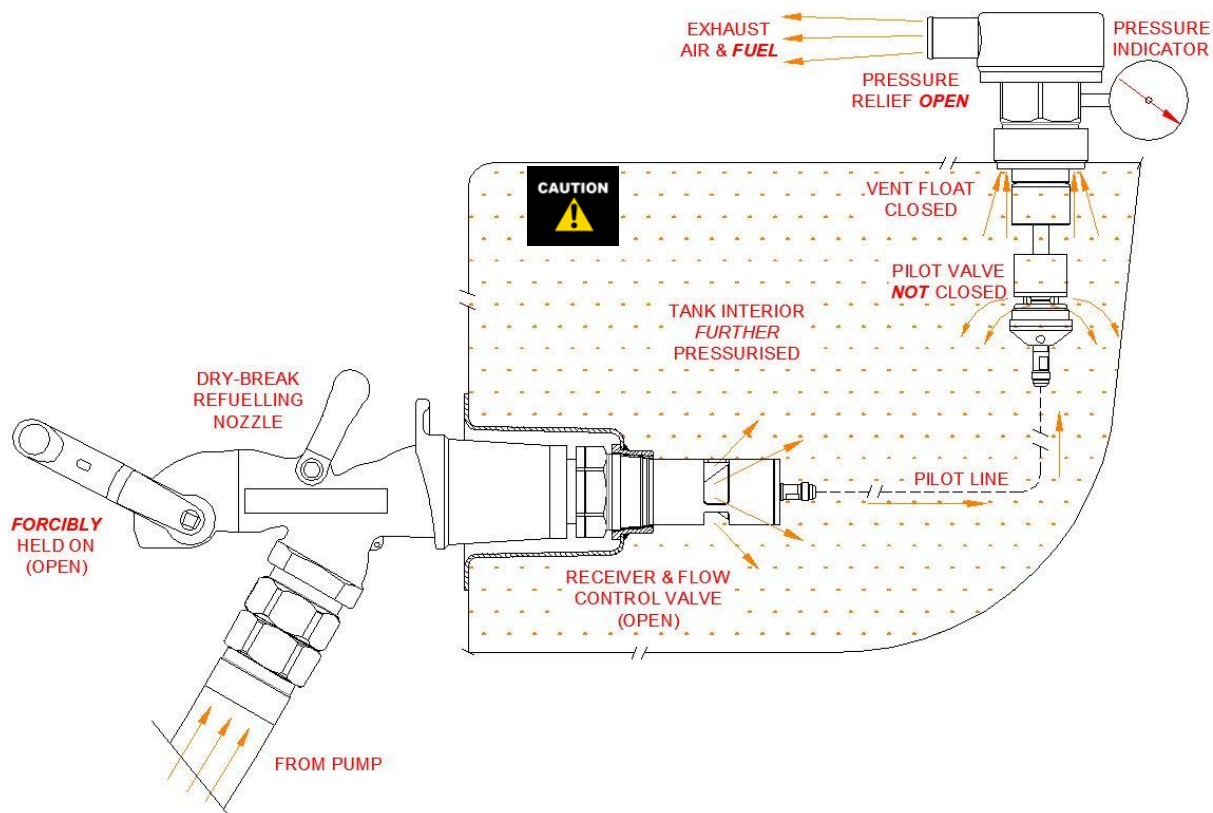

Figure 11 - Partial Pressure Relief Valve Open
Figure 11 illustrates the purpose of the (*partial*) **Pressure Relief Valve** within the BVLS model level sensors in the event the primary “normal operation” and secondary “vent float” features of the FillSafe Zero system **both** fail to terminate the inflow of fuel into the tank. The probability of such an event is low, however is more likely to occur in the event the refuelling nozzle is forcibly held in the open (ON) position and after failure of the primary OFP feature. Forcibly maintaining the nozzle in the open position is a habit by some operators, and is completely **contrary to proper nozzle operating procedure**. One reason for such an improper practice is due to premature shut-off of the nozzle due to excessive system back pressure (pressure drop) through the tank refuelling **system** – i.e. from the receiver through to the outlet of the tank vent. **Premature nozzle shut-off is preventable**, and is an event which should not be tolerated but instead properly investigated and rectified – please contact Banlaw for further advice.